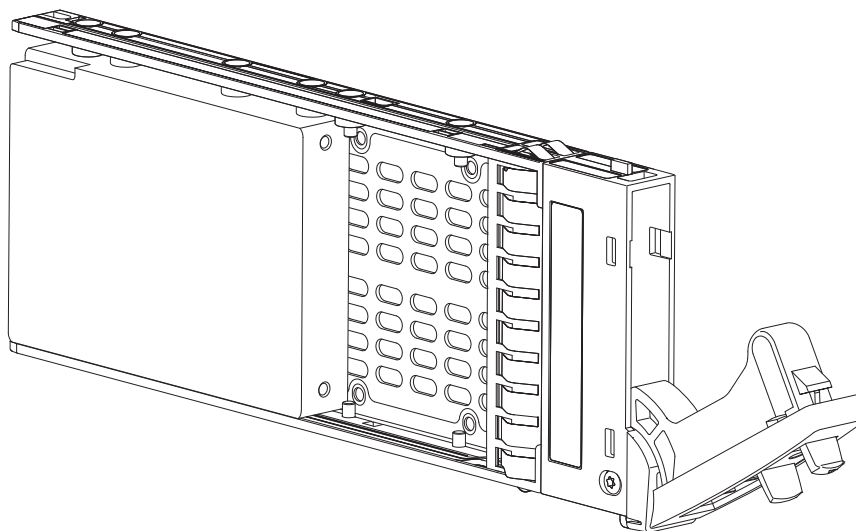

Figure 96 SFF drive carrier module in open position
2. Release the carrier handle by pressing the latch in the handle downwards, and opening the hinged handle as shown in Figure 96 (page 118). Insert the carrier into the enclosure in a vertical position.